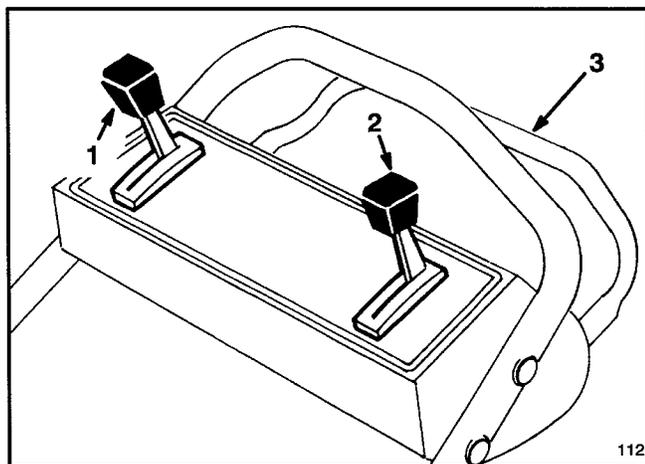
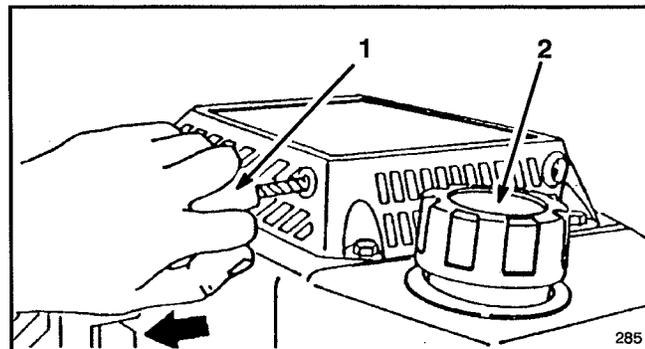

Figure 7
Figure 8
- Clean around fuel tank cap (Fig. 8) and remove cap from tank.
CONTROLS—Throttle, ground speed control, and self-propelled control bar are on upper handle (Fig. 7). Fingertip starter is on top of engine (Fig. 8).
2. **STARTING**—Move ground speed control to "N" (Fig. 7). Move throttle to  (CHOKE). Brace yourself and mower securely by placing your foot on the top left side of mower housing. Pull recoil starter out until positive engagement results; then pull vigorously to start the engine. When engine starts, remove throttle from CHOKE and regulate engine speed as desired.
3. **TRACTION OPERATION** (Fig. 7)—Move ground speed control to desired setting. Number "1" is slow, "2" is medium, and "3" is a fast walking pace. Ground speed varies, depending on space between control bar and handle. Move ground speed control to "N" when using the mower for trimming and whenever leaving the mower.